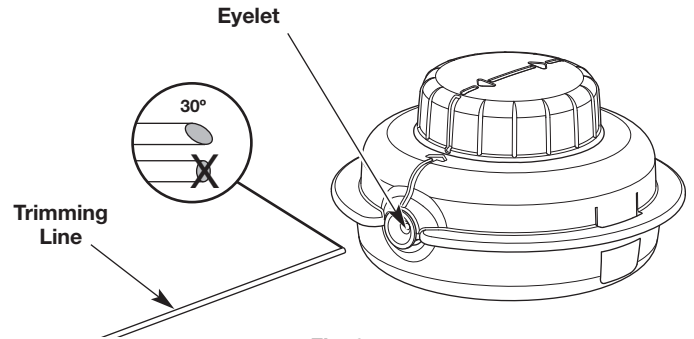

Fig. 2
2. Cut two 10-foot (3.0 m) lengths of new trimming line. Cut one end of each line at a 30 degree angle (Fig. 2).
4. Insert one of the lines into an eyelet on the cutting head (Fig. 2). Use the angled end and push the line in about 3 inches (7.5 cm). Repeat this process with the other line and remaining eyelet.